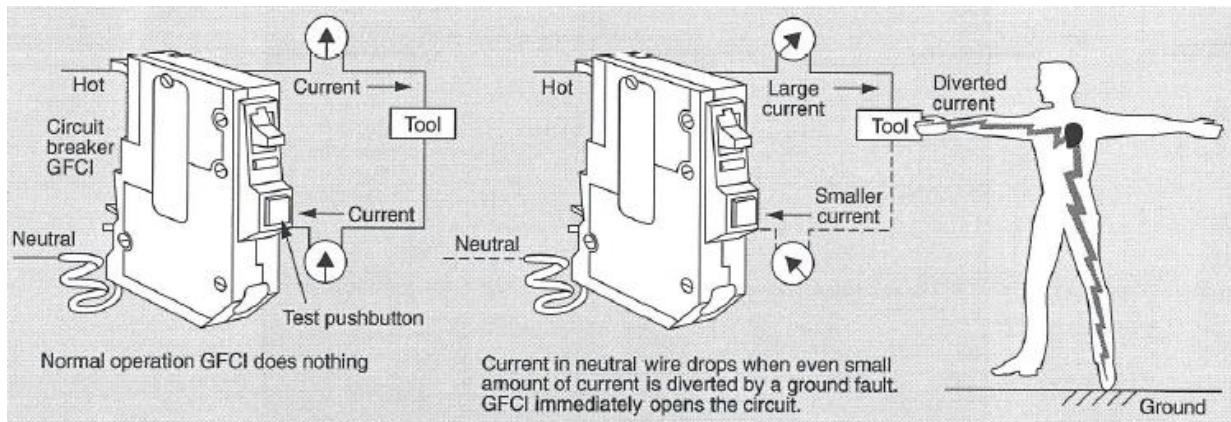

Figure 4.6: Ground-Fault Circuit Interrupter
- 4-24 When the fault circuit has a high resistance, a *ground-fault circuit interrupter* (GFCI) provides the necessary protection. Under normal conditions as shown in Figure 4.6, the current in the two conductors is equal and the GFCI does nothing. However, the instant a ground fault occurs, as shown at the right in the figure, the current in the two wires becomes unequal. The GFCI compares the current in the two conductors of a circuit. If the current differs even slightly, as happens when a ground fault allows part of the current to bypass a section of one conductor, the GFCI opens the circuit stopping the flow of all the current in the circuit.